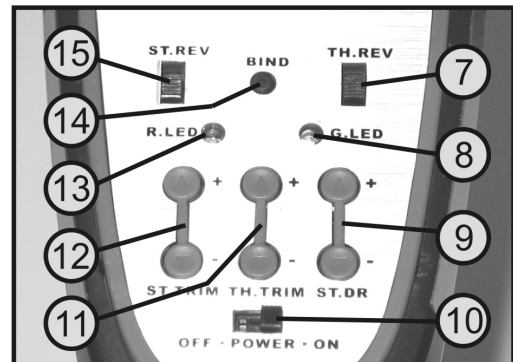

Figure 2
When new batteries are inserted, switch on the transmitter with the function switch (see figure 2, item 10) for test purposes. For this, slide the operating button from the left (OFF) to the right (ON).
The red operating control LED (see figure 2, item 13) is lit and indicates the on/off state of your transmitter. The green under-voltage display LED (also see figure 2, item 8) remains lit to indicate sufficient power supply of the transmitter.
Push and hold the lower one of the two trim buttons (-) for steering trim (also see figure 2, item 12).
The green LED display (also see figure 2, item 8) starts to flicker after a while. With the receiver system switched on, the servo lever of the steering servo will turn step by step from the middle position to the end of the trimming area.
The trim for the steering function is exactly at the centre if the steering servo lever no longer moves if you try operating the reverse switch (see figure 2, item 15). The steering wheel must be in the middle position for this.